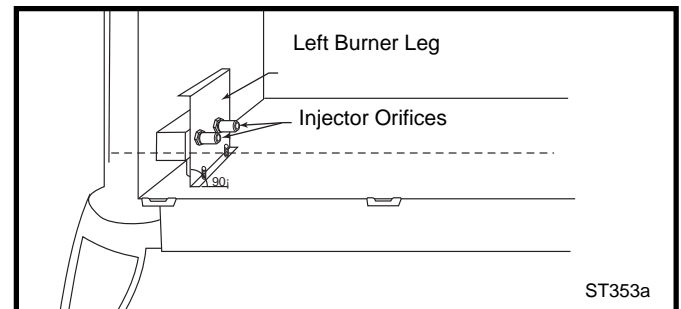

Fig. 39 Remove and replace injector orifices.
8. Remove injector orifices from left burner leg using 1/2" wrench. (Fig. 39)
NOTE: It is very critical to keep the left burner leg, which holds the injectors, at a 90° angle to the base. (Fig. 39) This keeps the orifices aligned with the tubes inside burner. Failure to do so could affect the flame appearance and performance of the unit.